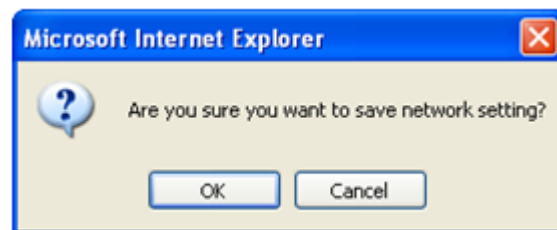

Figure 5
2. Click the [Save] button on the Network Setting, which will cause a confirmation window, Figure 5, to appear.